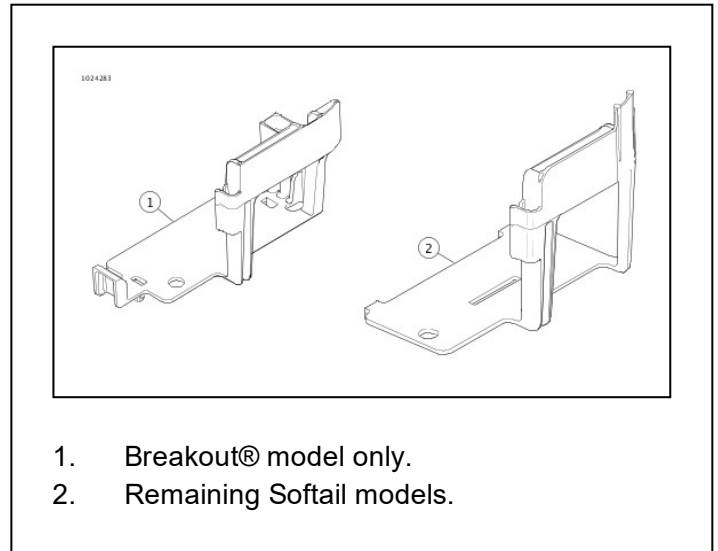

Figure 11. Non-Modified Softail Battery Caddy
4. See **Figure 11**. See service manual. Remove battery caddy.